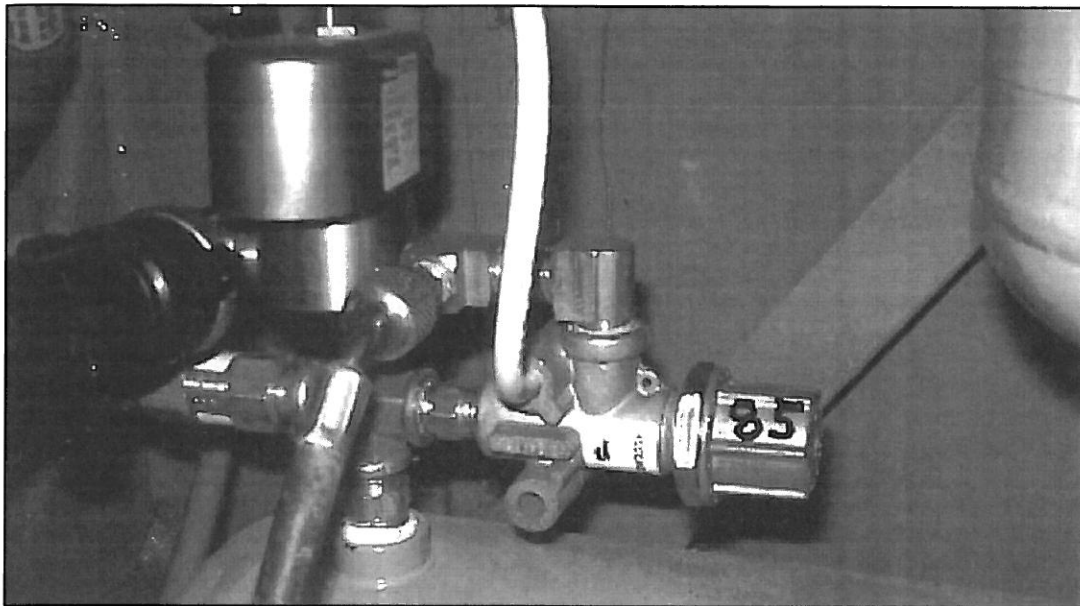

Figure 6.
16. Using two (2) wrenches, slowly rotate knob clockwise until the connected air gauge displays 85 psi.
18. Wipe to remove the 100 psi identification on knob. Mark the new 85 psi setting on knob (refer to Figure 6).